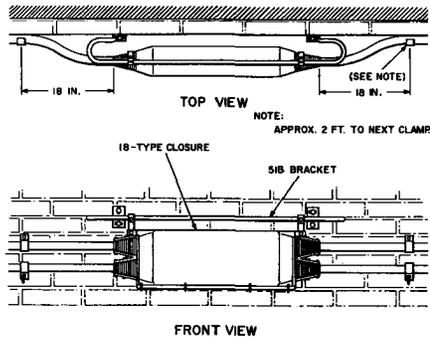

Fig. 9—Typical Bracket and 18-Type Closure Mounting
4.07 Figure 9 illustrates the mounting of 18-type closure.